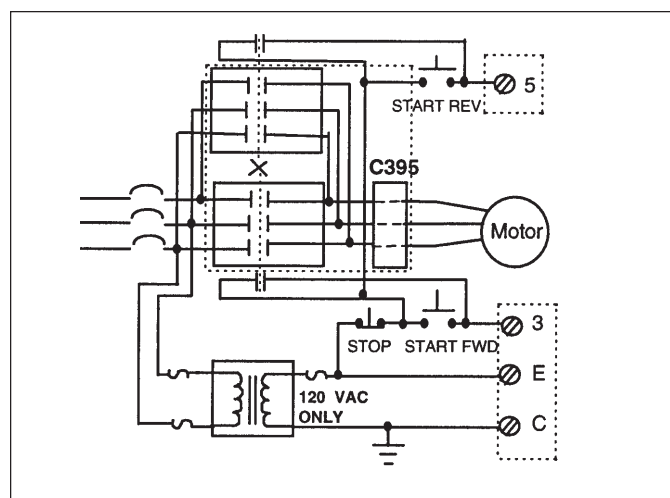

Fig. 3 Typical Reversing Wiring Diagram
The C395ADRDN/C395CFRDN Reversing Overload has a separable control wiring terminal block which powers the overload and also provides hardwired control of the contactor. Each terminal is designed to accept up to two #14 wires, and consists of four terminals labeled "C," "E," "3" and "5." The "C" and "E" terminals are described above. The "3" is the direct hardwire forward control for the contactor, while the "5" controls the reverse contactor. These inputs should be wired to the start/stop logic. Figure 3 illustrates a typical reversing wiring diagram.
1. Locate the **FLA** and Service Factor **SF** of the motor. Determine the appropriate heater number from Figure 3. For motors with a service factor greater than or equal to 1.15 increase the heater indicated in Figure 4 by one.